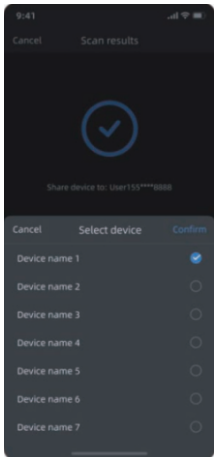

Figure 4
- 4)Figure 4: When there are multiple devices under your name, you can select the device you want to share in the **"Select device"** pop-up window.